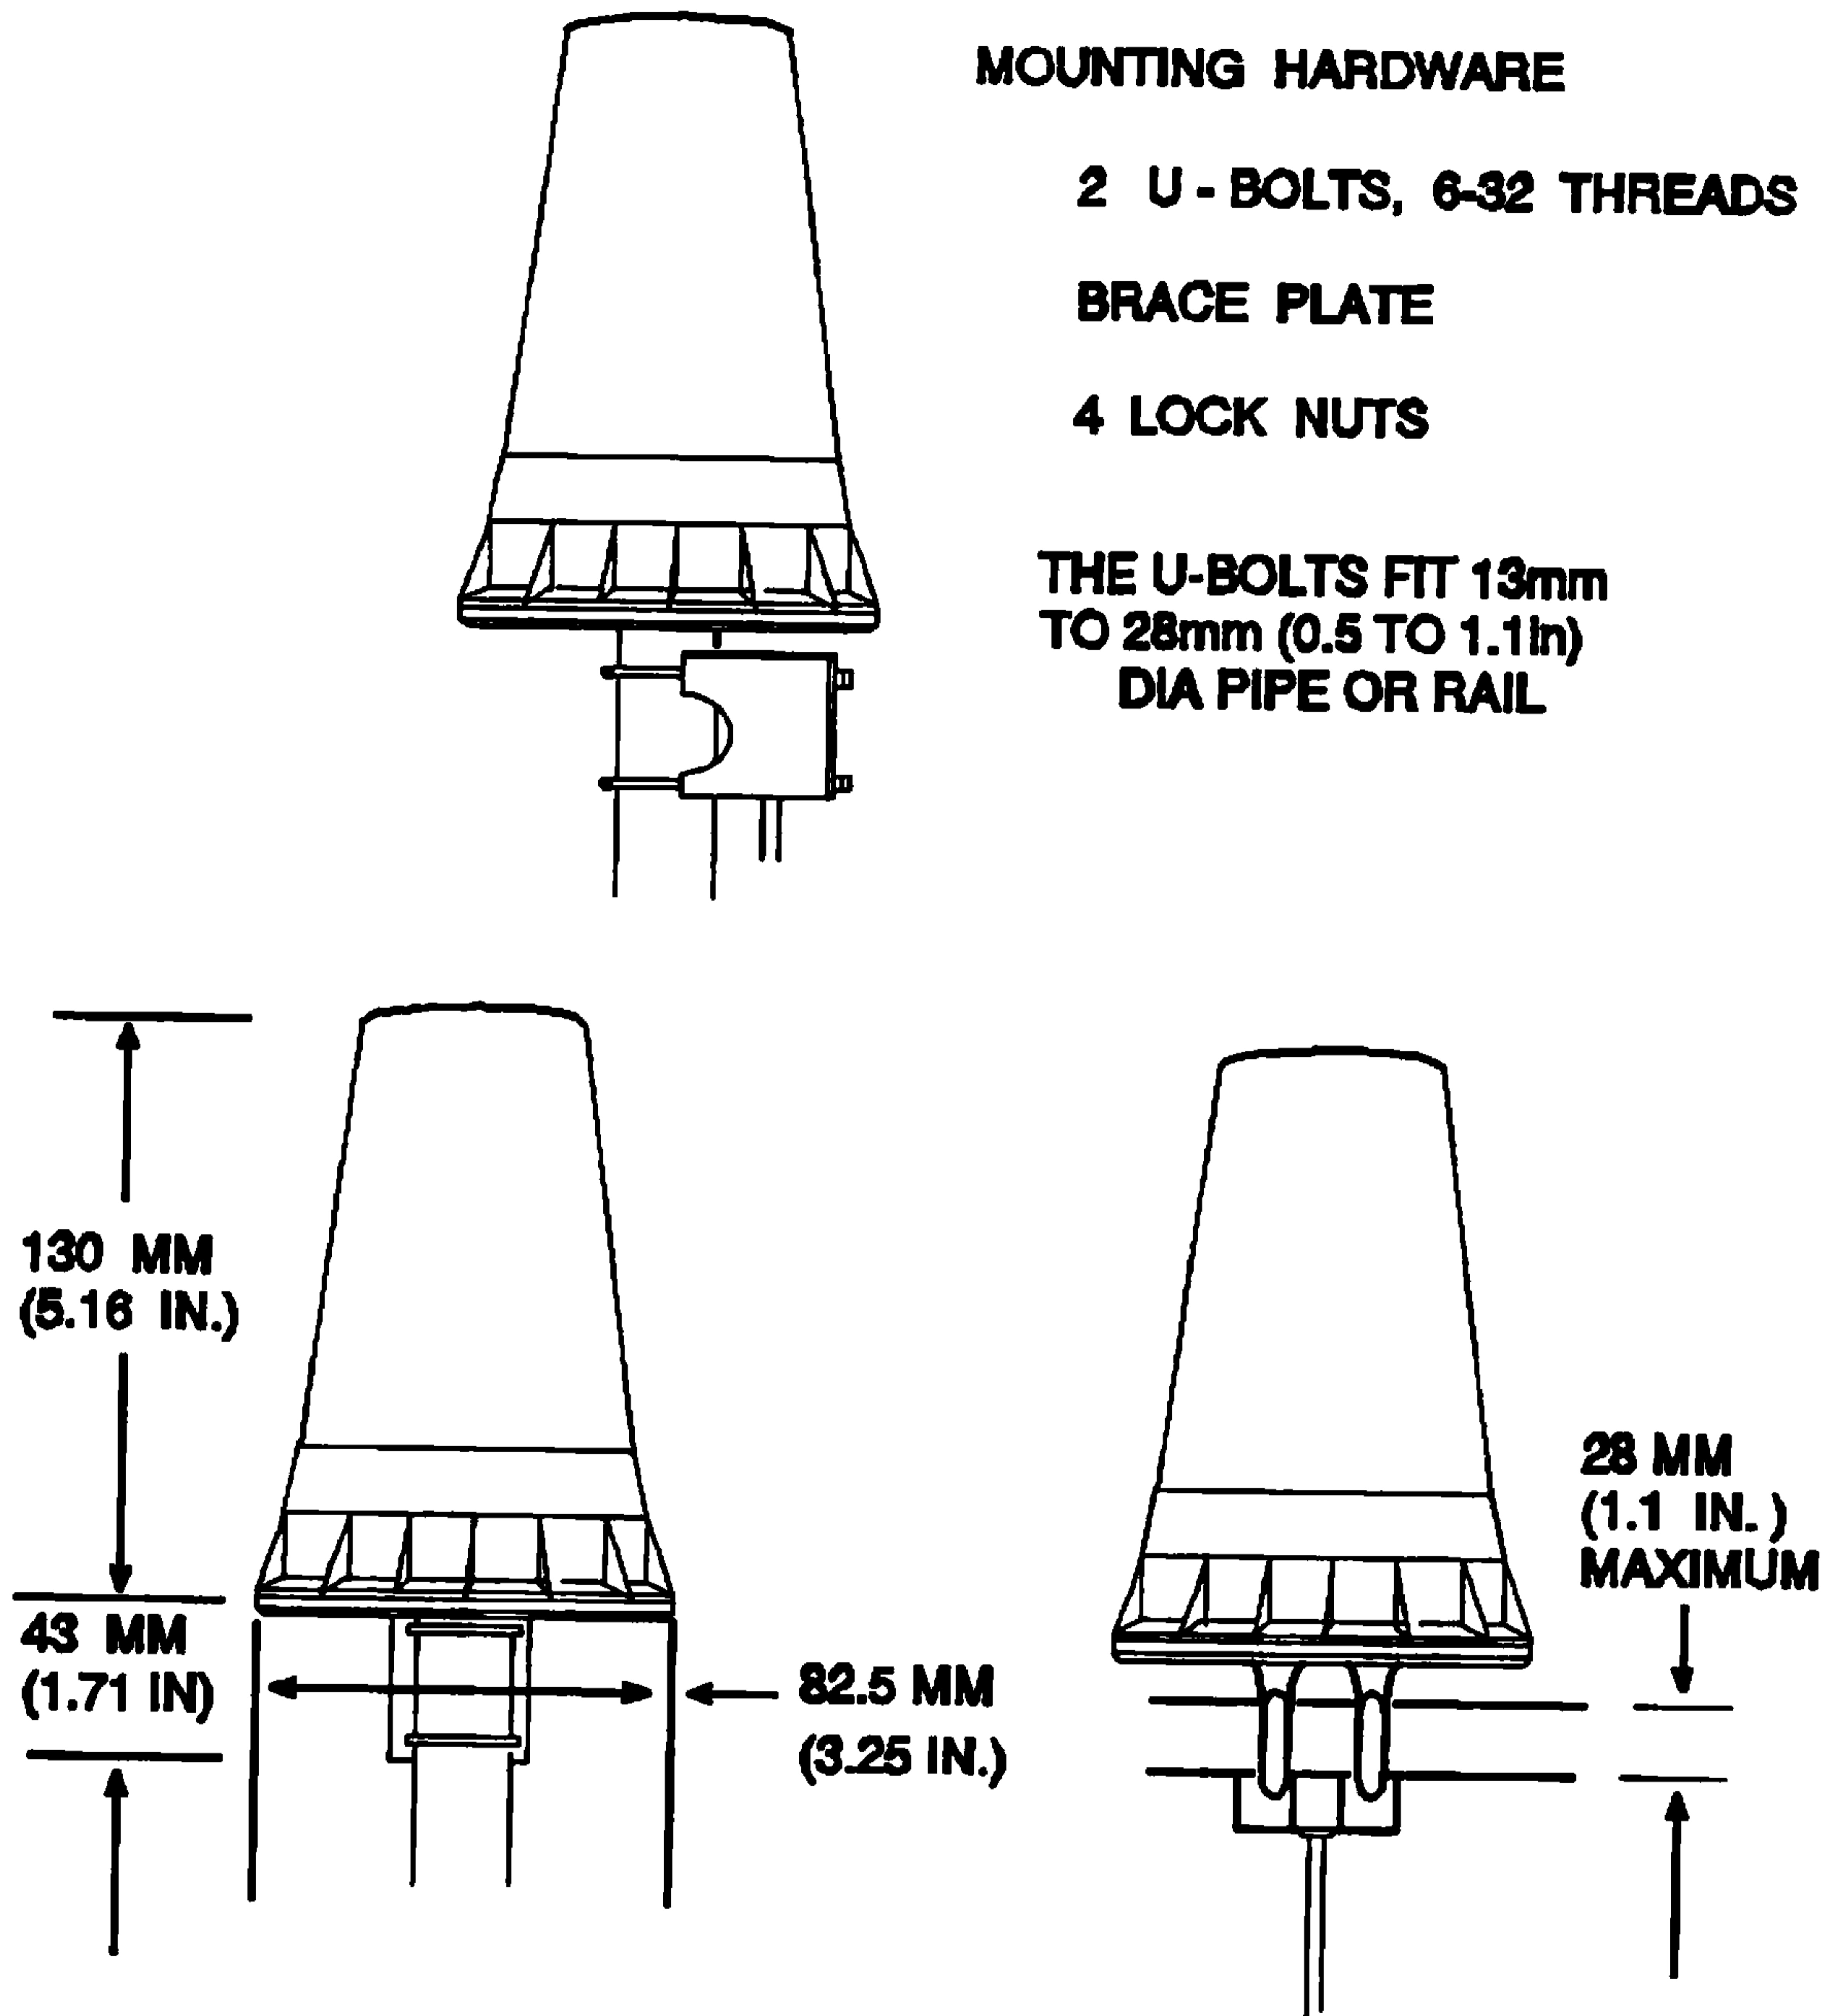

Figure 2. Navigator Vertical/Horizontal Antenna Mounting and Dimensions
2. Attach the antenna to a rail or pole using a standard antenna mount, or other appropriate hardware, as shown in Figure 2.